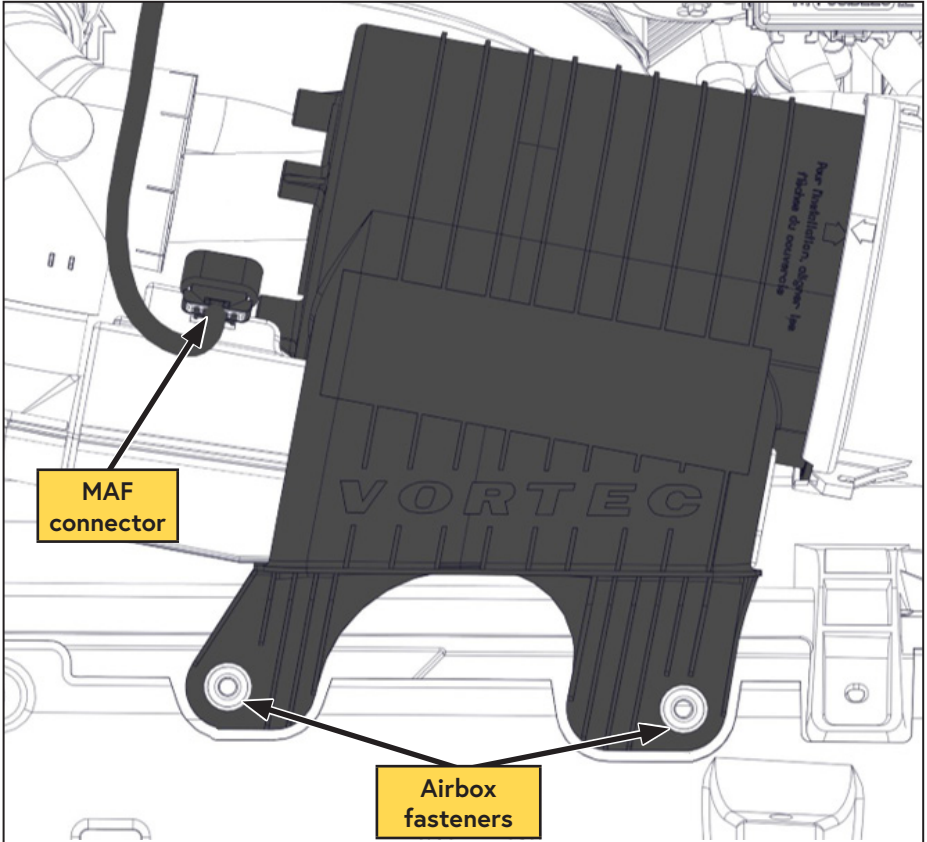

Figure 7 — MAF sensor
- Disconnect the Mass Airflow (MAF) sensor (Figure 7).
- Remove the 2 front bolts on the airbox and pull the airbox upward to remove it (Figure 7).